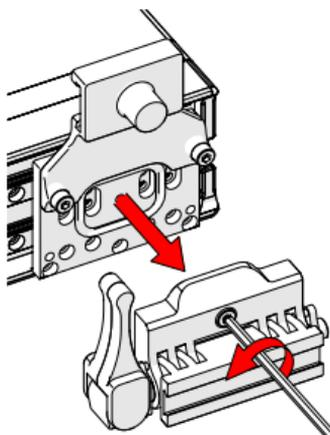

Fig. 140 - Remove pivot nose
2. Using the supplied 3 mm hex driver, remove the raster arm pivot nose (*female*) from the raster arm (Fig. 140).